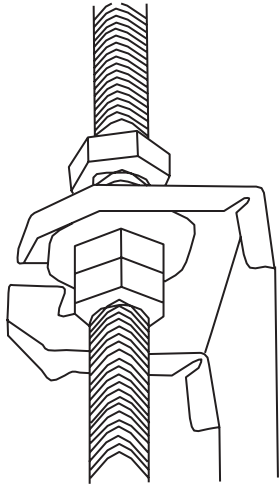

Fig. 4.5
5. Mount the indoor unit. You will need two people to lift and secure it. Insert suspension bolts into the unit's hanging holes. Fasten them using the included washers and nuts (see Fig.4.5).